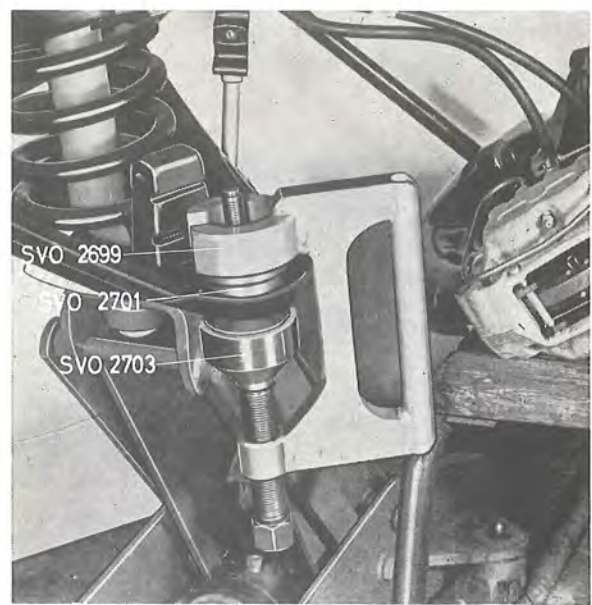

Fig. 6-26. Removing the rubber bush, lower wishbone
1. Secure press tool SVO 2699 in the vice. Remove the rubber ring (2, Fig. 6-14), as well as the spacer ring (3). Press the bushes out with drift SVO 2705 and counterhold SVO 2701. The tools should be placed as shown in Fig. 6-26. The bushes are pressed out in the direction of their flanges, that is, rearwards in the vehicle, see Fig. 6-14.